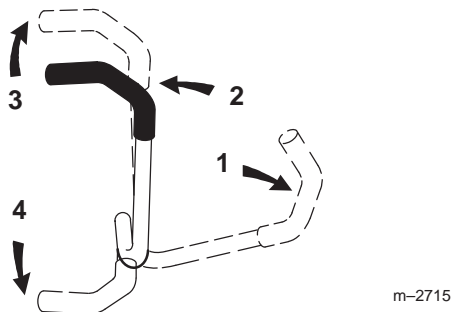

Figure 15
3. To go forward, slowly push the motion control levers forward (Fig. 15).
To go straight, apply equal pressure to both motion control levers (Fig. 15).
To turn, release pressure on the motion control lever toward the direction you want to turn (Fig. 15).
2. To go backward, slowly pull the motion control levers rearward (Fig. 15).